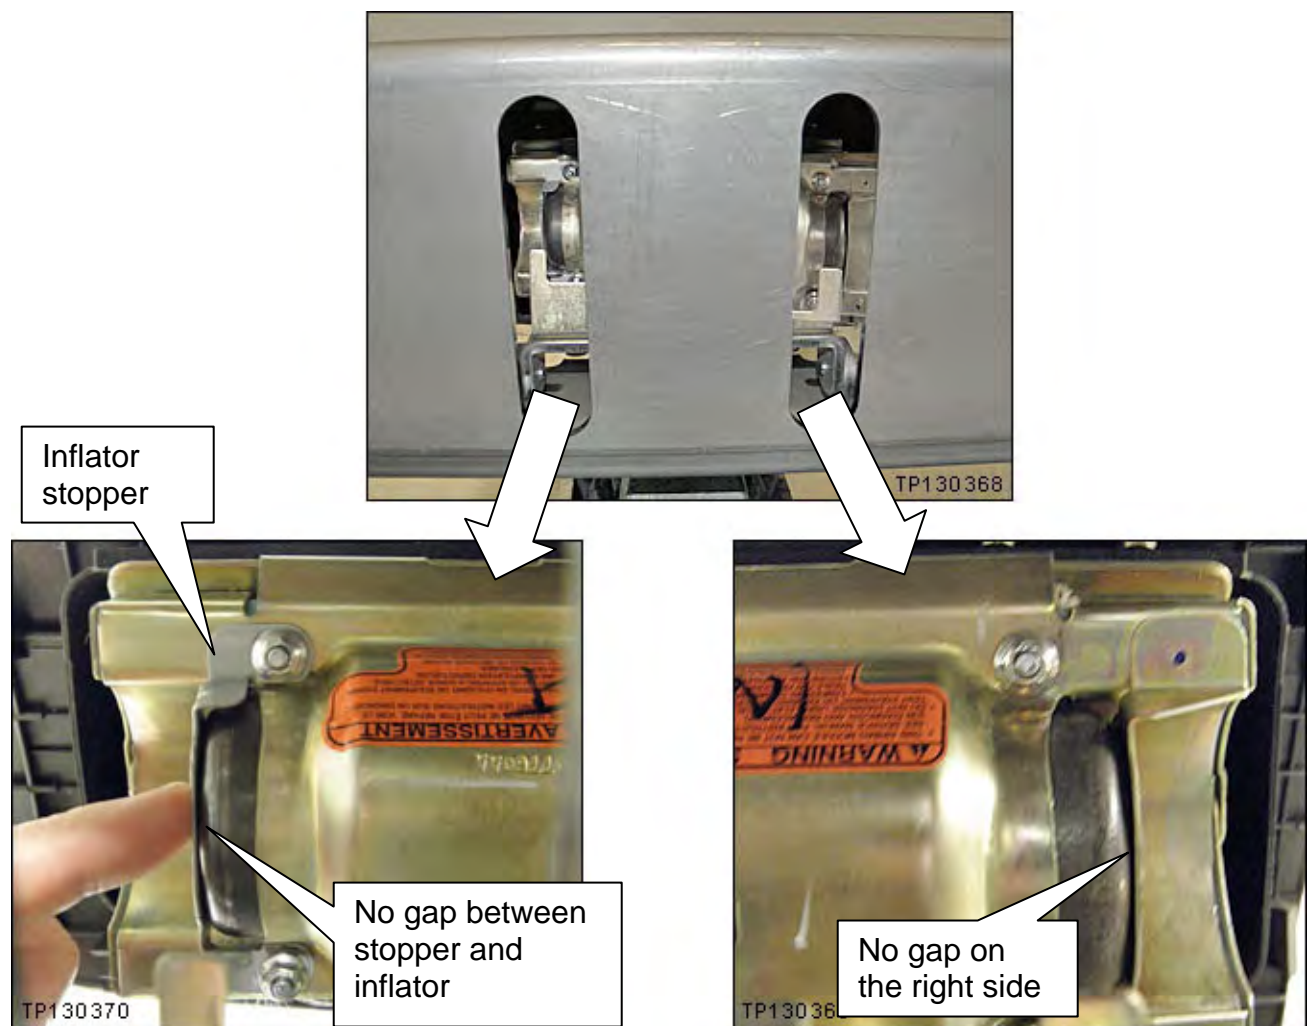

Figure S15
18. Install the inflator stopper and 4 inflator securing nuts finger tight (see Figure S15).
19. Make sure the inflator is pushed all the way into its housing – no gap on the right side (see Figure S15).
20. Make sure there is no gap between the inflator stopper and the inflator (see Figure S15).